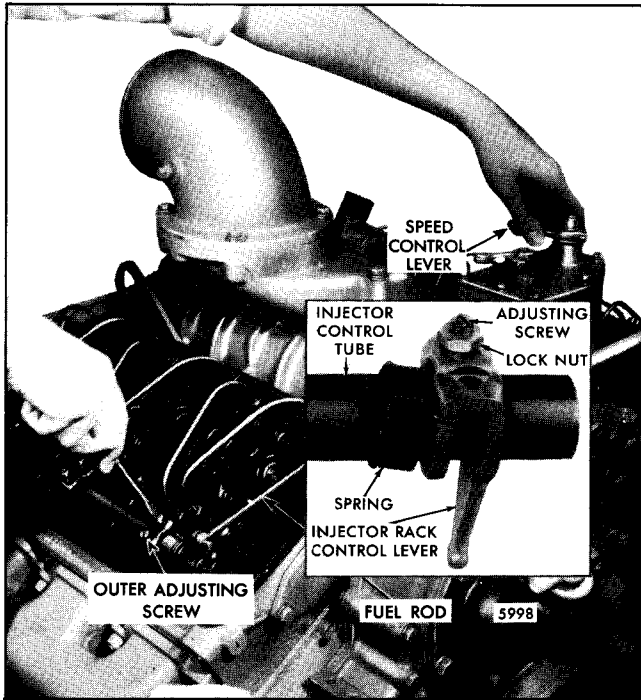

Fig. 3 - Positioning No. 3L Injector Rack Control Lever
5. Loosen all of the inner and outer injector rack control lever adjusting screws or the adjusting screws and locknuts on both injector control tubes (Fig. 3). Be sure all of the injector rack control levers are free on the injector control tubes.
Turn the inner adjusting screw on the No. 3L injector rack control lever down until a slight movement of the control tube lever is observed or a step-up in effort to turn the screwdriver is noted (Fig. 3). This will place the No. 3L injector in the full-fuel position. Turn down the outer adjusting screw until it bottoms lightly on the injector control tube. Then alternately tighten both the inner and outer adjusting screws.